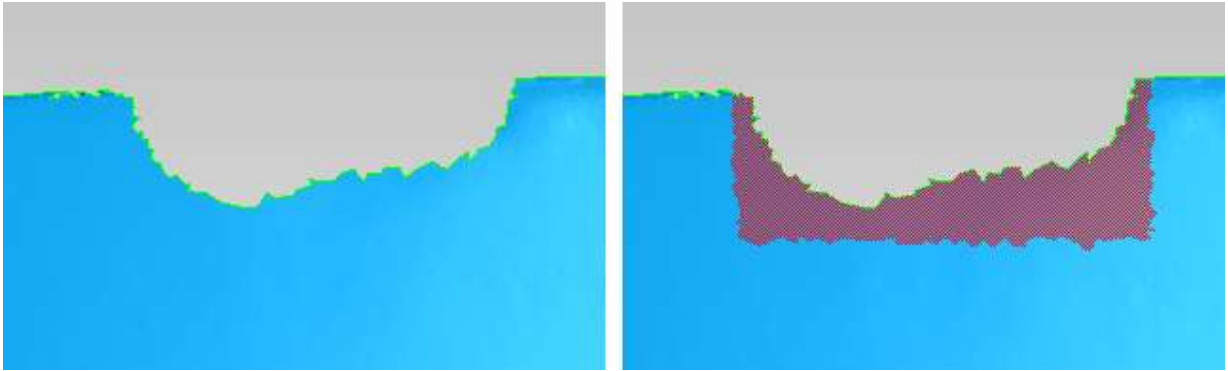

Figure 89
7. Rotate/Zoom the view as shown in **Figure 89**.
- From the **right-click menu** click **Select Triangles**; you are placed in selection mode; using your selection tools, select triangles as shown in **Figure 89**.